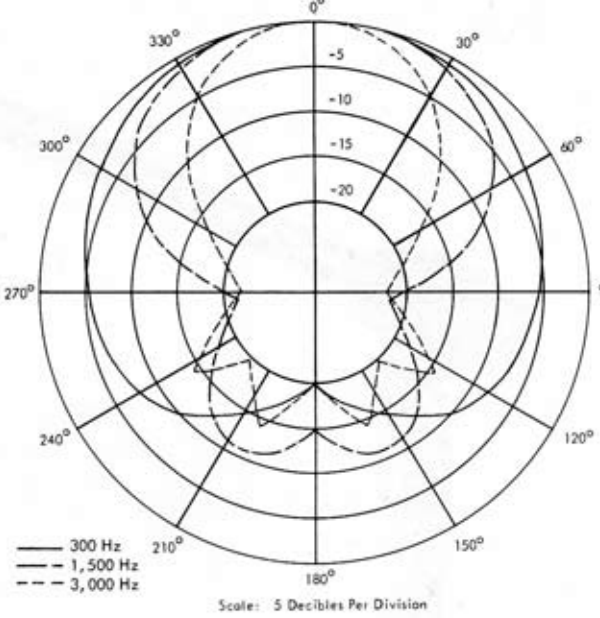

Figure 2 - Polar Pattern
- Polar Pattern: Cardioid to 700 Hz, 20–25 rejection at sides and rear above 700 Hz. (See Figure 2)